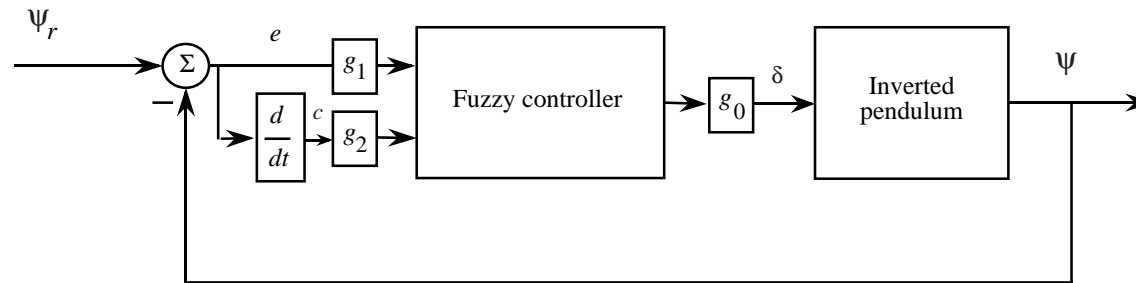

Figure 4: Control system for tanker.
- Use the control system in Figure 4 and the following rules: